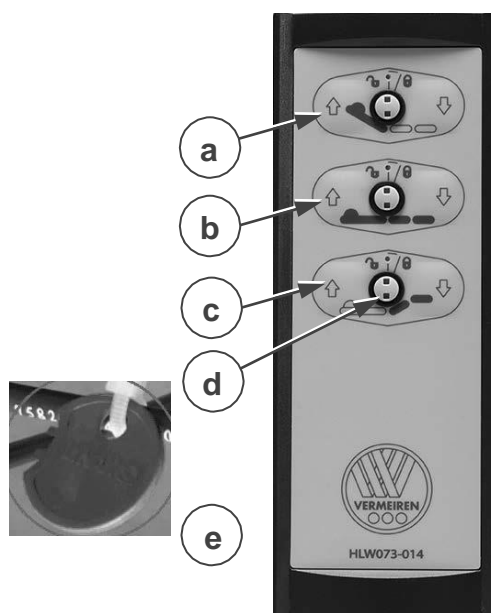

Figure 4 Handset and key to lock
2. Adjust the height of the bed with the handset; with button (b), see Figure 4.
3. Fold side rail (3): pull the black, spherical knob (17) to unlock the side rail and fold the rail down.
5. Transfer to the bed. Use the lifting pole with trapeze handle (2) to help move yourself on the bed.
6. Unfold the side rail (3): pull the rail up till its locked.
1. Use button (a) of the handset to lower the head section till it is completely down, see Figure 4.
3. Use strap (12) to lower the leg section, see §3.5.
4. Fold the side rail (3): pull the black, spherical knob (17) to unlock the side rail and fold the rail down.
5. Adjust the height of the bed with button (b) on the handset; see Figure 4.
6. Turn yourself to sitting positions with your legs outside the bed. To move yourself on the bed, use the lifting pole with trapeze handle (2).